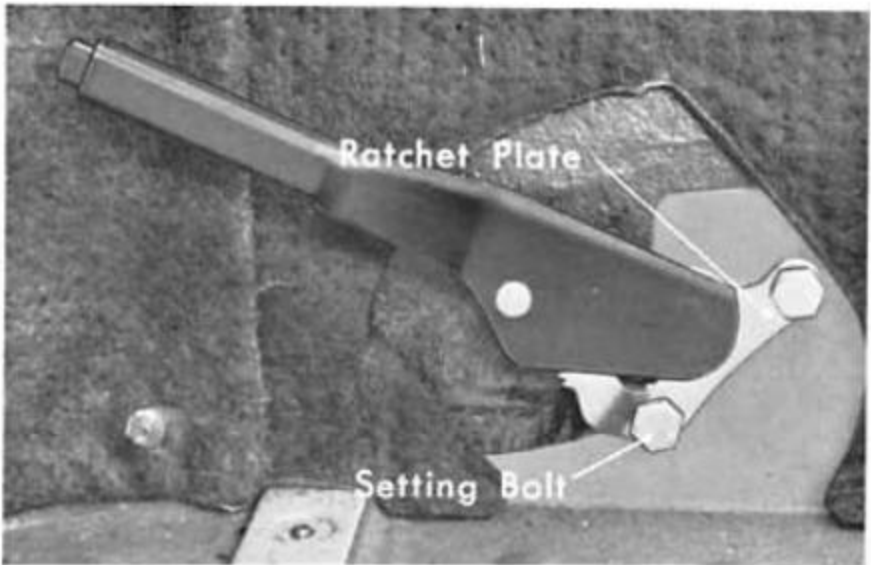

Fig. 17F-17
24. Remove the bolts and disassemble hood lock striker and hook link (Fig. 17F-14).